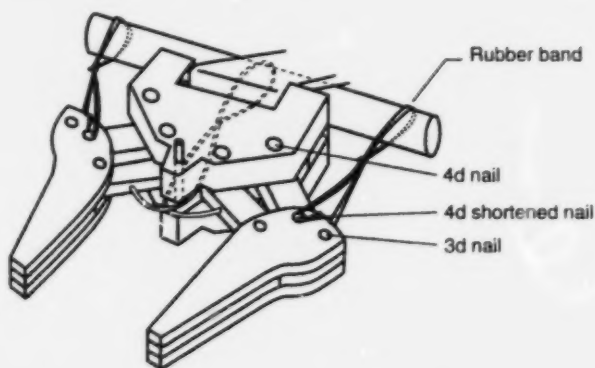

Figure 24 - Gripper Assembly
8. Thread fishline through small holes in part E around center nail and back to arm as shown in Figure 24.
13. Place a 5" piece of 1/4" dowel behind gripper and between arms. Attach rubber bands between end of dowel and nails on gripper. You may need to tie a knot in the rubber band to get the correct tension. (See Figure 24.)